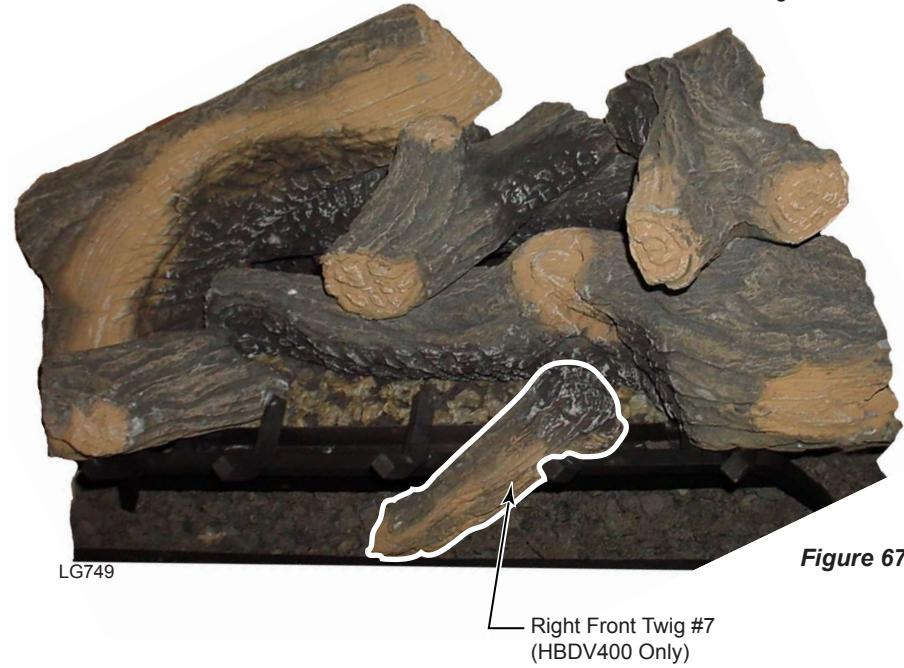

Figure 67
11. For 400 models only, place Right Front Twig #7 into place by hooking the end of the log on the second right tong of the grate and resting the other end over the lava rock. *Figure 67* (There is no seventh log on 300 models.)